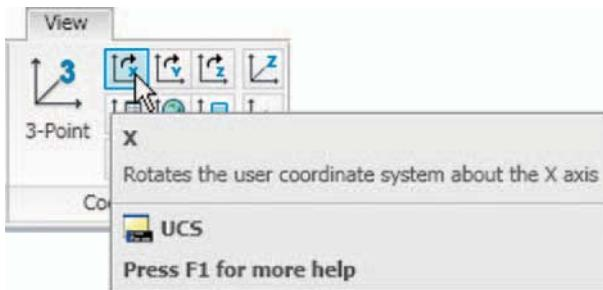

Fig. 17.16 The **UCS X** tool in the **View/Coordinates** panel
3. Click the X tool icon in the **View/Coordinates** panel (Fig. 17.16):